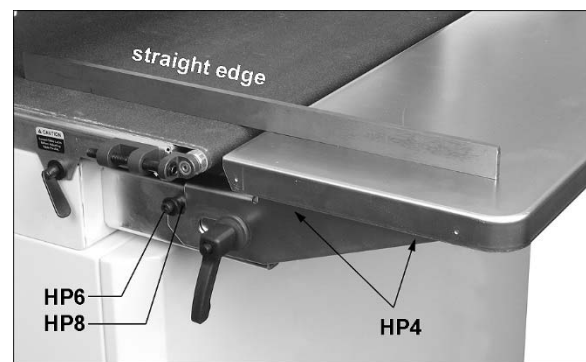

Figure 3: infeed table alignment
Align infeed table with sander's conveyor table as follows. See Figures 3 and 4.
6. Place a straight-edge at one side of conveyor table under drum and extending out over infeed table. See Figure 3. You may wish to lower drum until it contacts the straight edge to hold it in place.